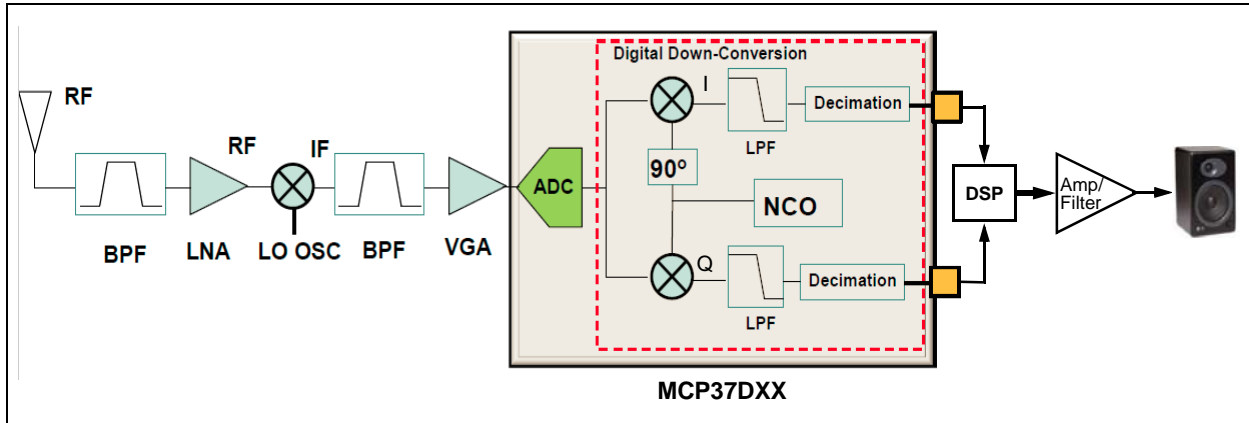

FIGURE 6: Example of Using the MCP37DXX for Software Defined Radio.
designs and to reduce system cost. Figure 6 shows an example of Software Defined Radio (SDR) using the MCP37DXX. As shown in the figure, the entire digital IF block in the SDR can be replaced with a single MCP37DXX.
Figure 6 shows an example of a software defined radio receiver employing a super-heterodyne, dual stage conversion architecture. This architecture is popularly used in various modern digital RF communication systems, including LTE, IEEE 802.11. The received Radio Frequency (RF) signal is down-converted to an Intermediate Frequency (IF) in the first stage and then converted to baseband signals in the second stage. The second stage includes an ADC, which digitizes the IF signal, and a Digital Down-Conversion circuit, which converts the digitized IF signal to the in-phase and quadrature baseband signals. The Digital Down-Conversion block includes a Numerically Controlled Oscillator (NCO), digital mixers, I/Q demodulation and FIR decimation filters.
Instead of implementing the digital IF processing block with discrete components, or using extensive FPGA-based logic, system designers can now utilize the built-in Digital Down-Conversion (DDC) feature in the MCP37DXX ADC. As shown in Figure 6, the MCP37DXX minimizes the RF components needed for the RF receiver design and simplifies the system architecture.